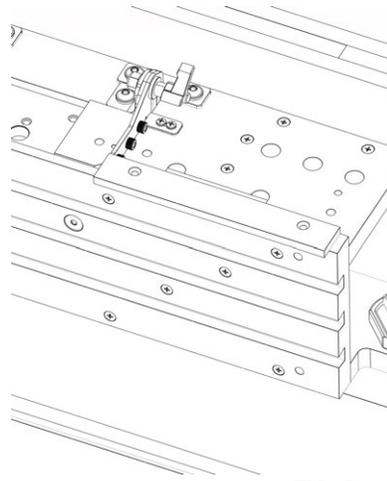

FIG. 3
1. The Upper Wood Braces (Part #2) are pre drilled and need to be matched up to the correct side of your workstation. See Figure 3.